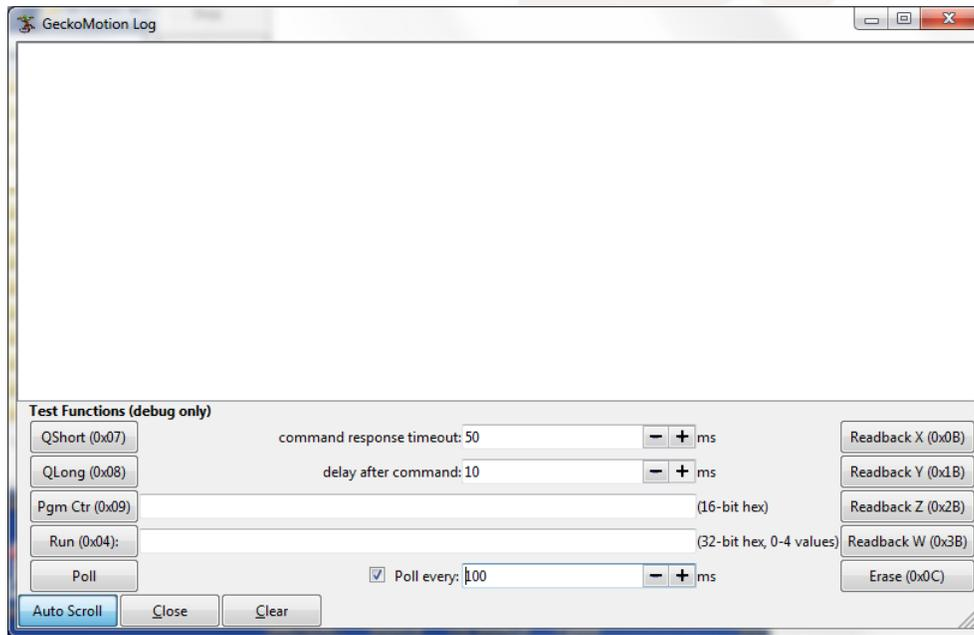

Figure 14: GeckoMotion Log window.
- Set Poll time: In **GeckoMotion** menu, click **View** and select **Log** to open **GeckoMotion Log window** (Figure 14). In **GeckoMotion Log**, check (yes) "**Poll every**" checkbox and set poll time to 100ms by using + or – buttons. Poll time can be changed per different application. In this example, it is 100ms.
- Disable Polling: In GeckoMotion menu, click **View** and select **Log** to open GeckoMotion Log window (Figure 14). In GeckoMotion Log window, uncheck (no) “**Poll every**” checkbox.